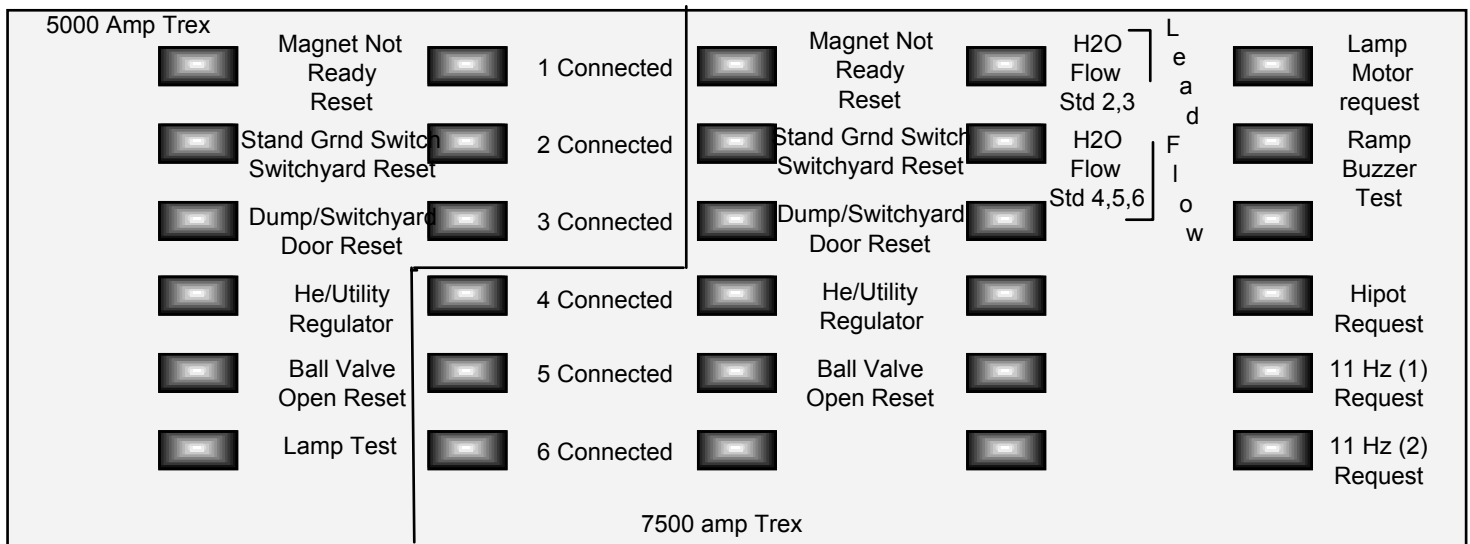

Fig. 3
- 4.3 **Reset the TI-530 indicator panel** (Fig. 3) located in rack #4. The first, third, and fifth columns of indicators are red flashing No-Go switches which must be depressed to reset. The second and fourth columns are green Go switches which can be depressed to select a stand for hipot or 11 Hertz request. Also, the stand that is set up for test will be illuminated. The Magnet Not Ready interlock will not clear until all others are clear. Although many of these labels are again obsolete, this panel should be self-explanatory. If this panel does not seem to be working right, press the Lamp Test switch to check that all the lamps are working.